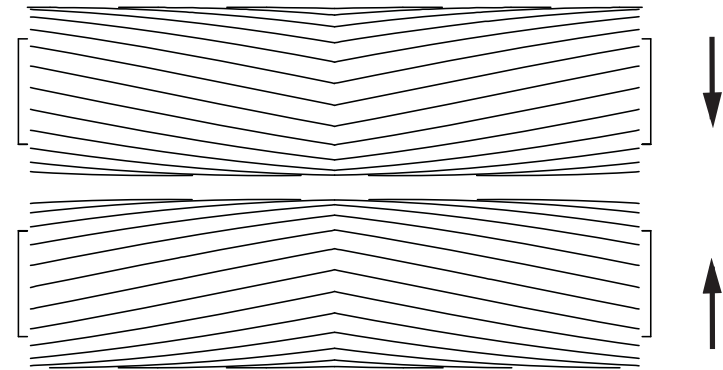

Fig. 6: Scrub Brush pattern
8. Slide the new or rotated scrub brush into the scrub deck. Ensure that the V-shaped bristle patterns on the brushes are pointing toward each other as viewed from above. (See Fig. 6)